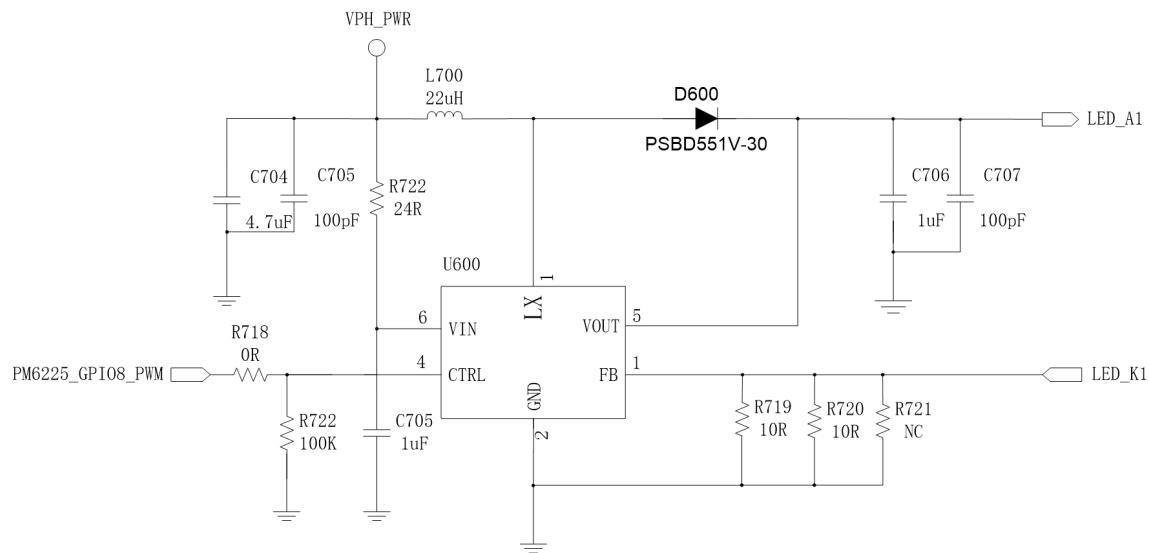

FIG. 4.15: External backlight circuit diagram
SLM927D does not support backlight driver output, customers need to use an external backlight driver. The backlight driver circuit can be referred to Figure 4.15. The brightness of backlight can be adjusted through PWM/PM6225_GPIO8 (44) of the module, and the modulation mode is PWM mode.